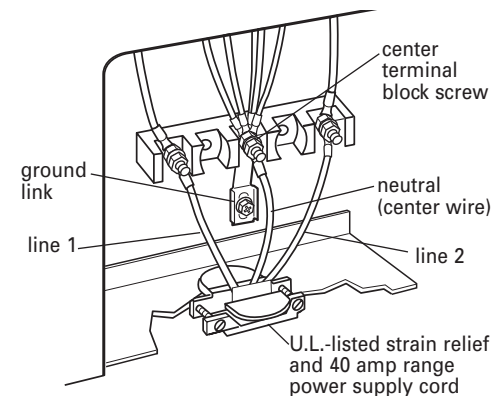

Figure 3
8. Connect the neutral wire (center wire) to the center terminal screw on the terminal block. See Figure 3.
9. Connect the other two wires (lines 1 and 2) to outer terminal screws on the terminal block. See Figure 3.